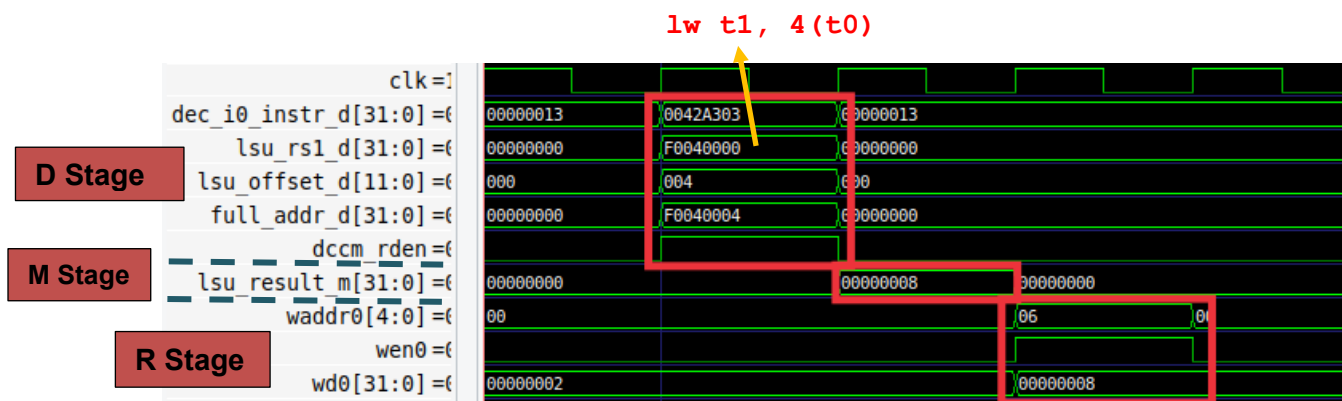
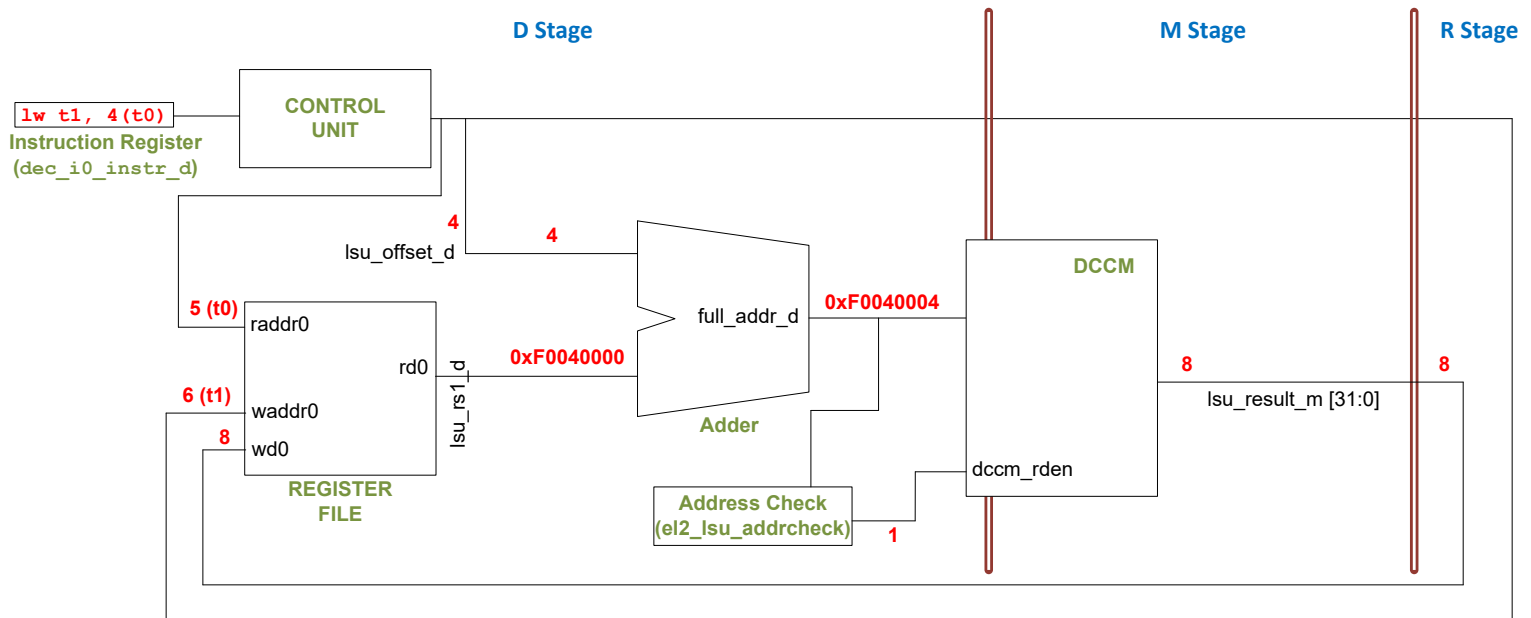

Figure 4. Verilator simulation for example program in Figure 2
Figure 5. High-level view of the `lw` instruction executing in the VeeR EL2 pipeline
Figure 4 shows the execution of the second `lw` instruction for an intermediate iteration of the loop from Figure 2. The signals shown are the ones specified in file: [\[RVfpgaEL2Nexys VideoNoDDRRPath\]/Labs/Lab13/LW_Instruction_DCCM/commandLine/scriptLoad.tcl](#). Note that all iterations are the same: the first load reads the DCCM's first data word (2) into `t1` (x6); the second load reads the DCCM's second data word (8) into the same register (`t1`).
Figure 5 shows a high-level view of the VeeR EL2 pipeline during the execution of the second `lw` instruction. Note that the figure merges the state of the processor in different cycles:
TASK: Replicate the simulation from Figure 4 on your own computer. Follow the steps described in detail in the GSG.
Analyse the waveform from Figure 4 and the diagram from Figure 5 at the same time. The figures include some signals associated with the D, M, and R stages. The values highlighted in red correspond to the second `lw` instruction as it traverses these stages.